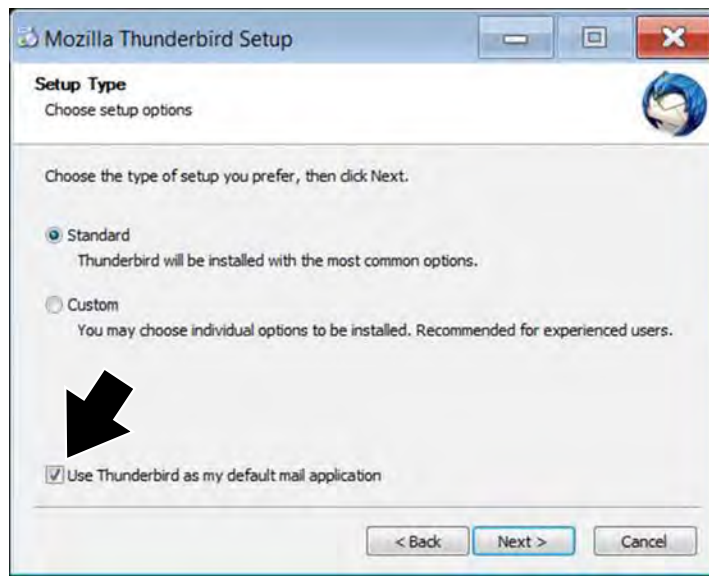

Figure 11-11
3. Continue through the setup. If available choose "set as my default mail application" (Figure 11-11).